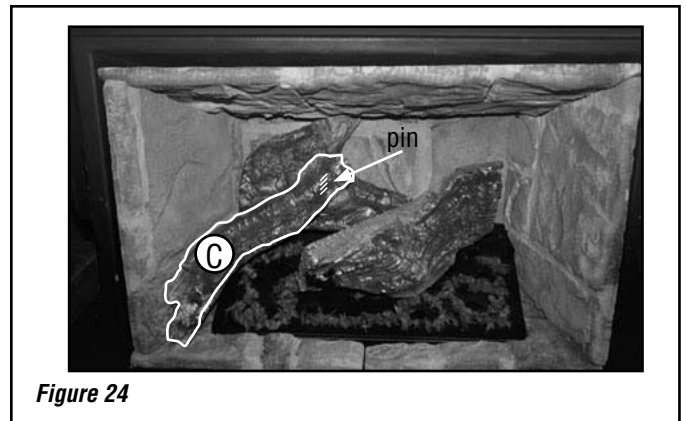

Figure 24
- Place left log (C) on pin in back. Push log against left side of refractory in front. See **Figure 24**.